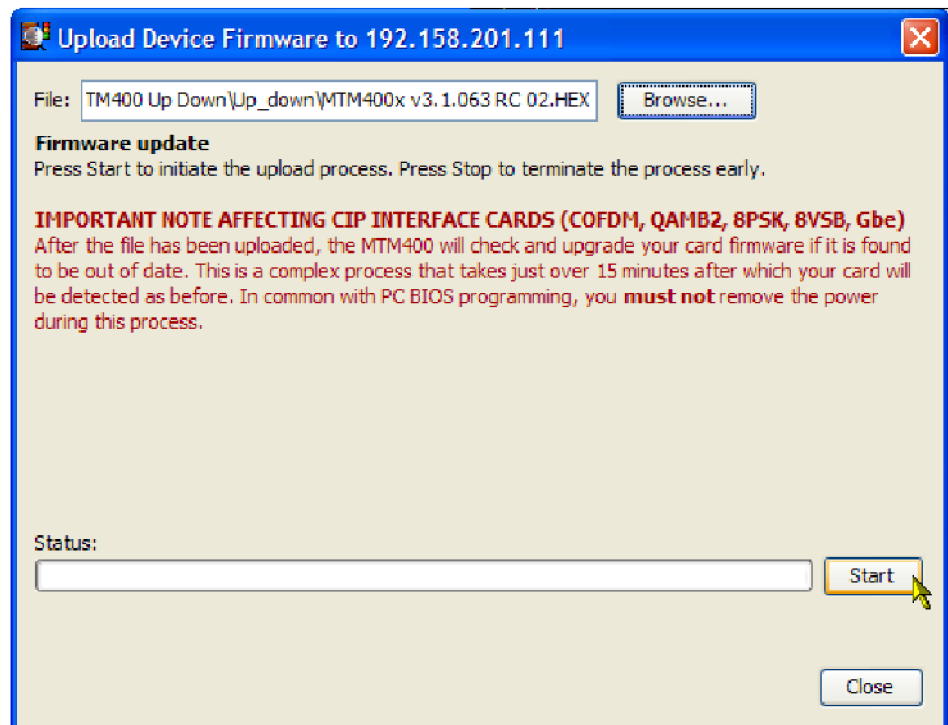

Figure 18: Upload Device Firmware window (RUI v3.0 and above)
8. In the Connect to MTM Device dialog box, click **Upload Firmware** to open the Upload Device Firmware window. (See Figure 18.)